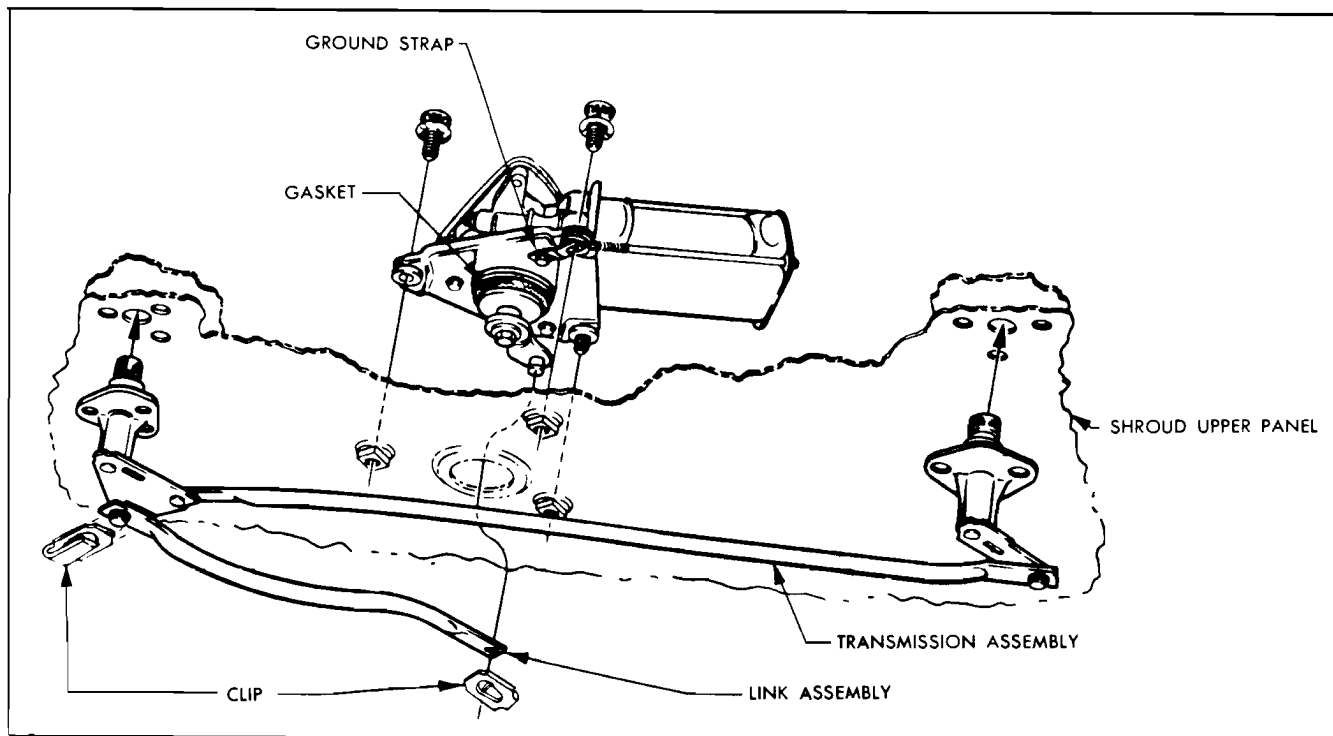

Fig. 11-54 Windshield Wiper Transmission
WIPER TRANSMISSION—REPLACE (FIG. 11-54)
1. Make sure gasket is on motor (Fig. 11-54).